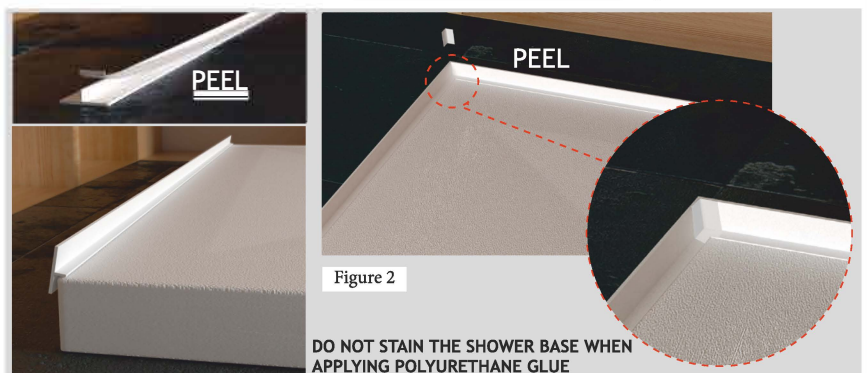

Figure 2
- 1.1.- Install the tile flange and sealing corners to the base glue as per Figure 2.